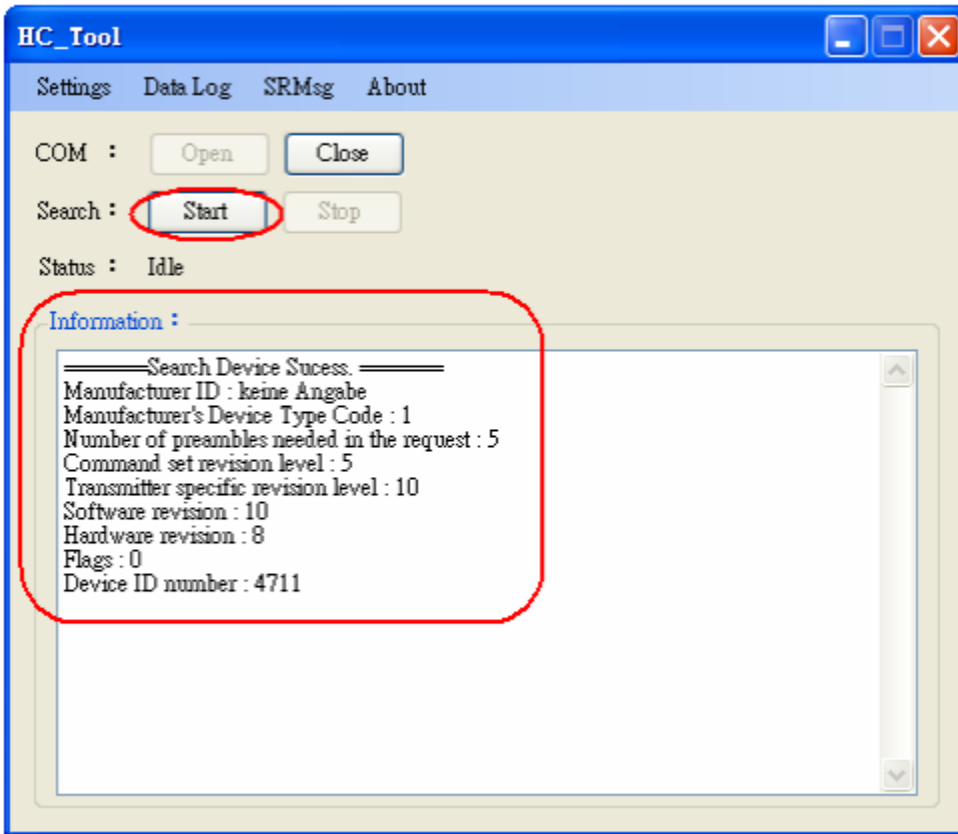

Figure 3-4: HART device Information
Step5: Click “Start” button to search all HART devices and the result will be shown in the “Information” field like Figure 3-4.